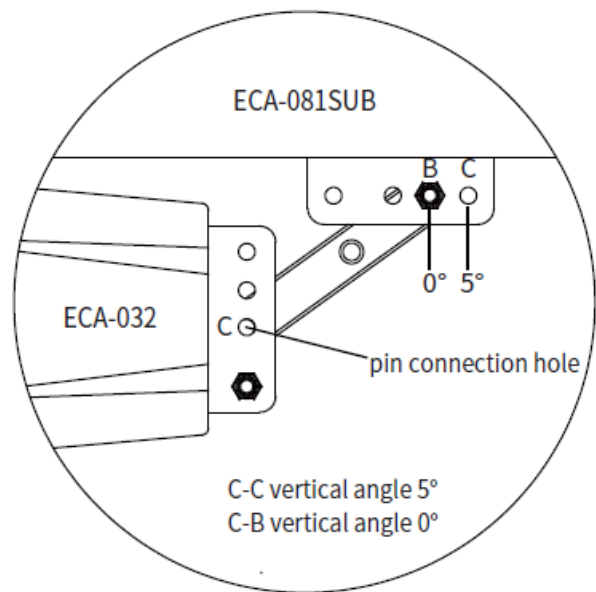

Figure 2
2. Connect ECA-032 with the subwoofer ECA-081SUB at three points. Use the bolt to adjust vertical angle in two steps (refer to figure 2).